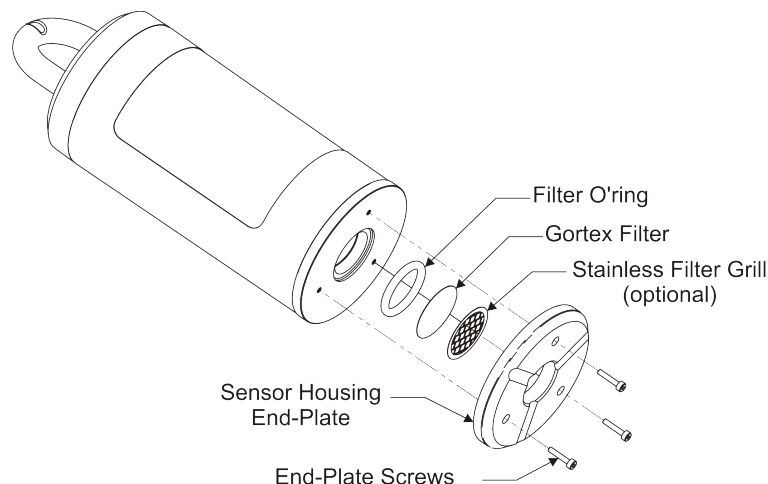

Figure 5 - Filter Replacement
- Using the Allen Tool [Part No. 11-0000] remove the three retaining screws from the filter housing assembly (See Figure 5)